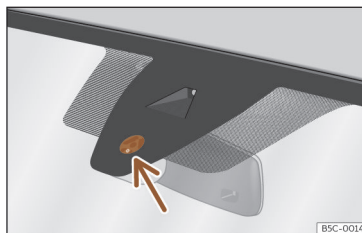

Fig. 98 Sensitive surface of the rain sensor.
The possible causes of anomalies and erroneous interpretations in the sensitive surface area >>> Fig. 98 of the rain sensor are, among others:
- **Dirt:** dry dust, wax, coating on glass (Lotus effect) or traces of detergent (car wash) may reduce the effectiveness of the rain sensor or make it react more slowly, later or not at all. Regularly clean the sensitive surface of the rain sensor >>> Fig. 98 (arrow) and check for possible damage to the wiper blades.